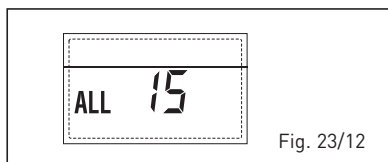

Fig. 23/12
- EXTERNAL PROBE ANOMALY "FLASHING" (fig. 23/13)